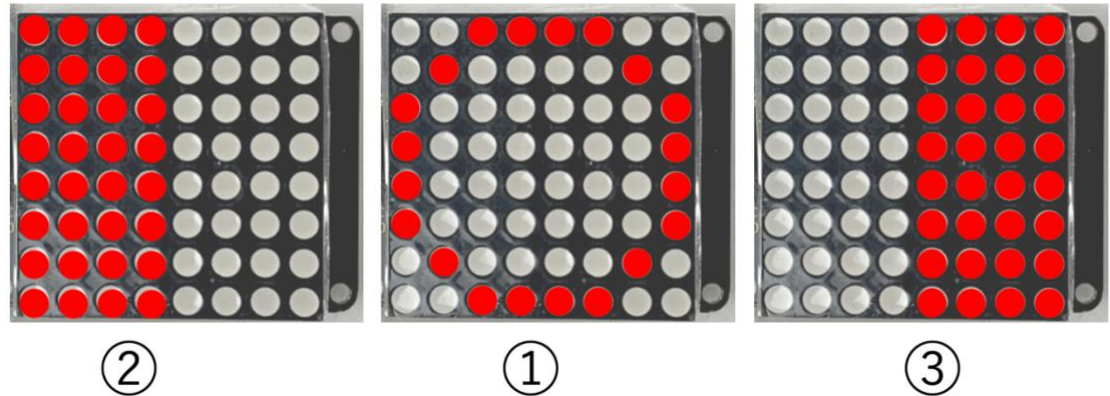

Fig. 6: LED Patterns
When users do not move, the LED matrix shows ② in Fig. 6. Moreover, when users
move forward or backward, the Led illustrates ③ or ② in Fig. 6 (The forward is the Right hand because many skateboarders use the right foot as a forward side.).